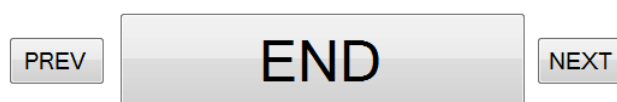

Figure 117: Barcode Scanner Controls
2. *Automatic DUT position.* The scanned BD address will be assigned to the selected DUT. DUT selection is done automatically. The PLT starts from the first active DUT and goes to the next after a successful BD address scan. The user can change the selected DUT via the controls shown in Figure 117. If the scanned BD address was successfully assigned, the PLT will automatically select the next active DUT and wait for a new BD address to be scanned.